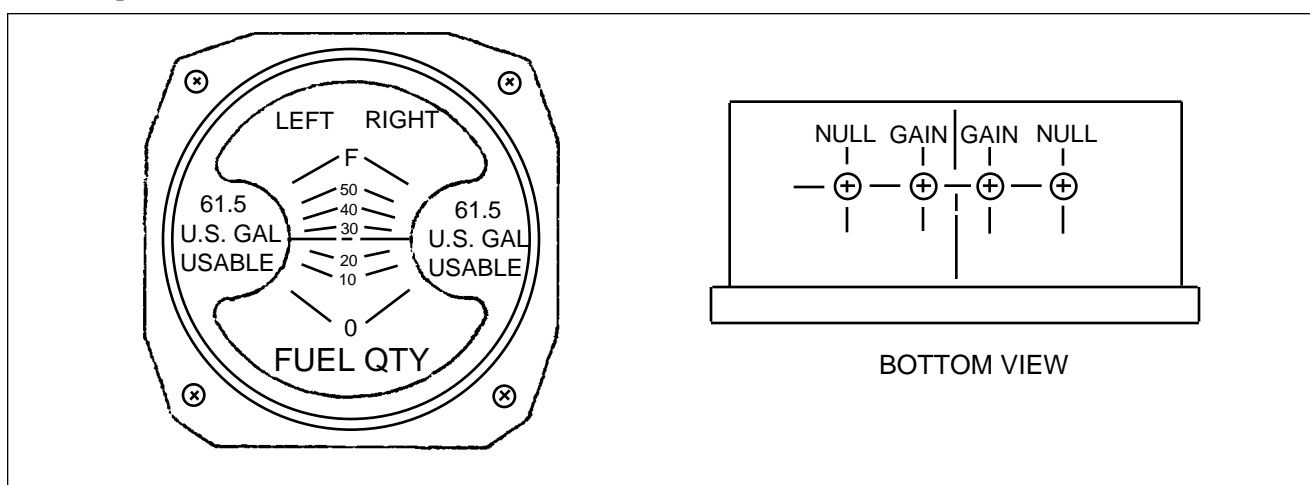

Figure 28-10 Seneca IV Fuel Quantity Indicators
6. Add 2 1/2 U. S. gallons of fuel to each tank. Check that needle of each (LEFT and RIGHT) gauge points to "0". If not, adjust appropriate NULL trim potentiometer until needle centers on 0, +0, -1/2 needle width (Refer to Figure 28-10.)
7. Completely fill fuel tanks. Check that needle of each gauge points to "F". If not, adjust respective GAIN trim potentiometer until needle centers on F. (Refer to Figure 28-10.)